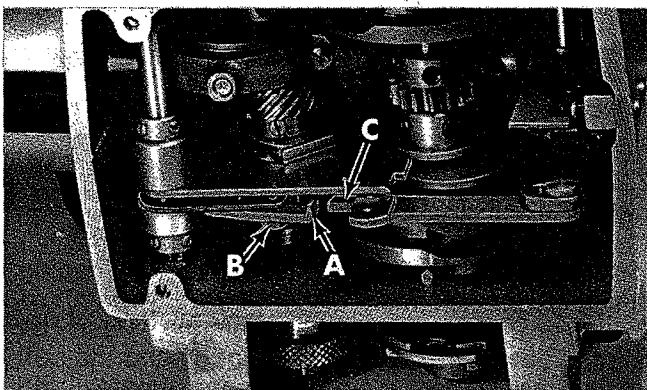

Fig. 48
Machine is in STOP POSITION and a button is in position to be sewn. Tilt the machine on its side. Loosen hex head bolt (B, Fig. 48) and position safety stop (A) so that its leading (stepped) edge is slightly to the front of link (C) as shown.
The function of the safety stop (A, Fig. 48) is to prevent engaging the machine into RUN POSITION should the button holder fail to place the button at the proper sewing position.